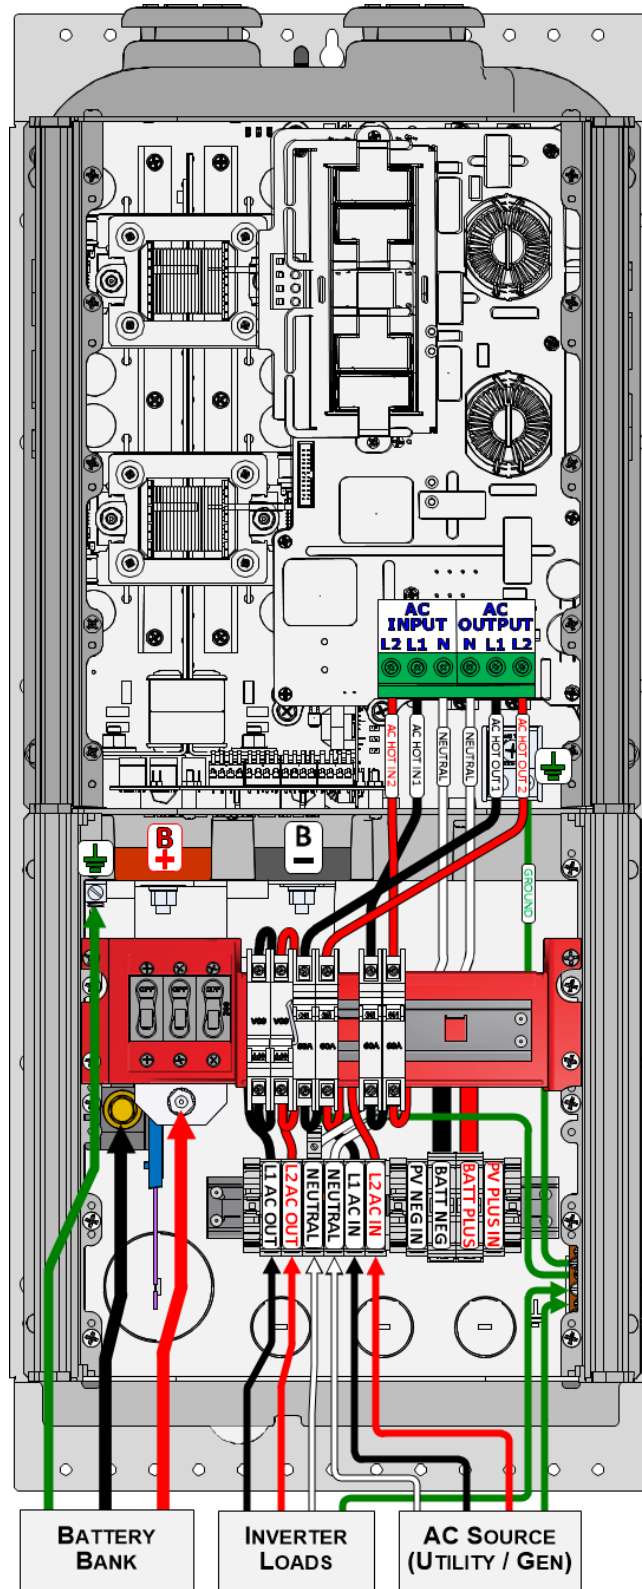

Figure 3
- Take a moment to study the various connections of the Rosie to the E-Panel as shown in **Figure 3**.